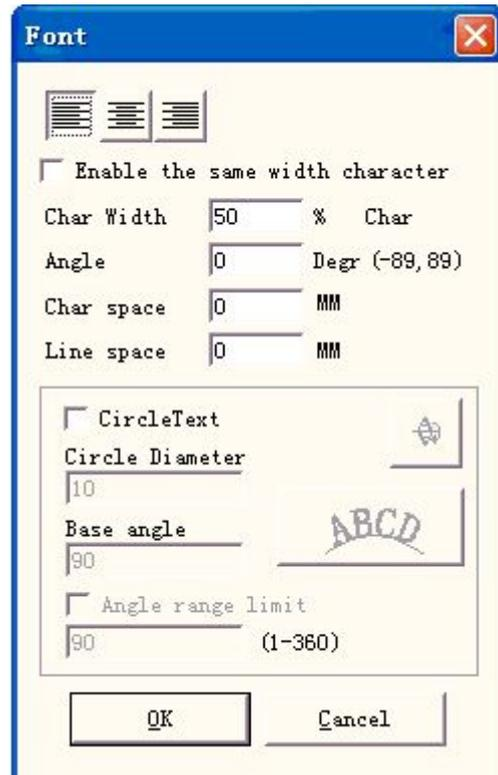
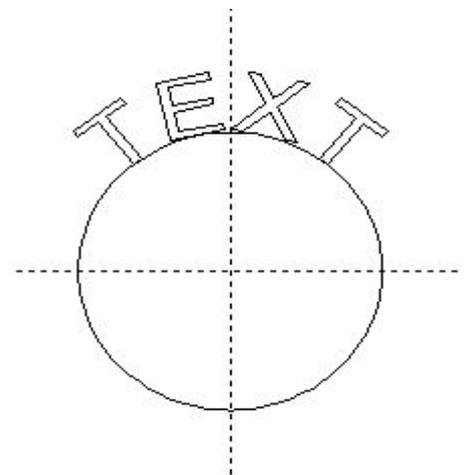

Figure 4-11 Character Options
Figure 4-12 Circle Text
: Figure 4-11 shows the dialog box after clicking this icon.
**CircleText** in the figure 4-11, the
The demonstration graph in Figure 4-12 is according to Figure 4-11 parameter making.